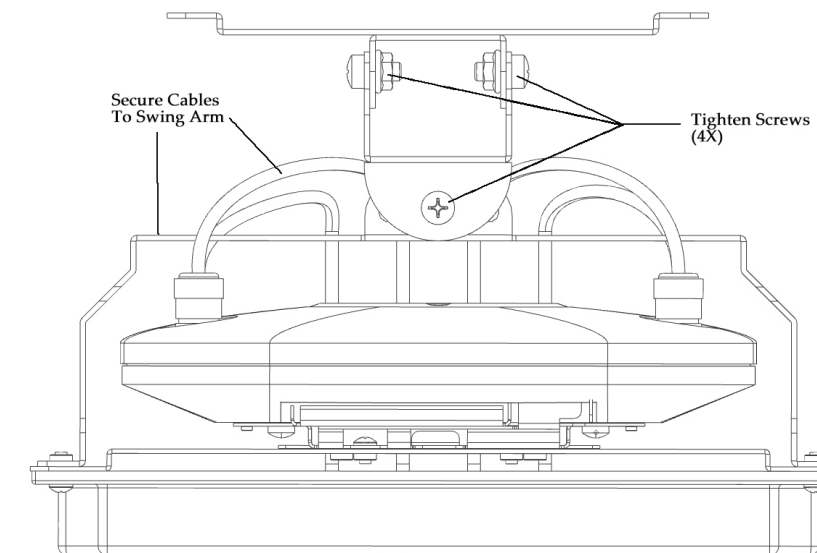

Figure 5
Step 5 – Use the provided wire ties to secure antenna cables to the mount. Tighten the screws snugly in the four locations shown in Figure 5 for the desired position of the antenna.